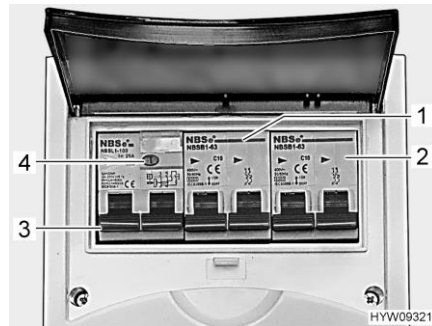

Fig. 160 Safety cutout and FI-switch (230 V fuse box)
A fault current protection switch (FI-switch) (Fig. 160,3) in the fuse box protects the complete vehicle from fault current (30 mA).
The downstream safety cut-out (10 A) (Fig. 160,1) secures the 230 V sockets, the transformer/rectifier, the auxiliary charging unit and the refrigerator.
For vehicles with special equipment, e.g. roof air conditioning unit, the device is protected by an additional safety cut-out (16 A) (Fig. 160,2).
- When the vehicle is connected to the 230 V power supply, press the test button (Fig. 160,4). The fault current protection switch (FI-switch) must be activated.